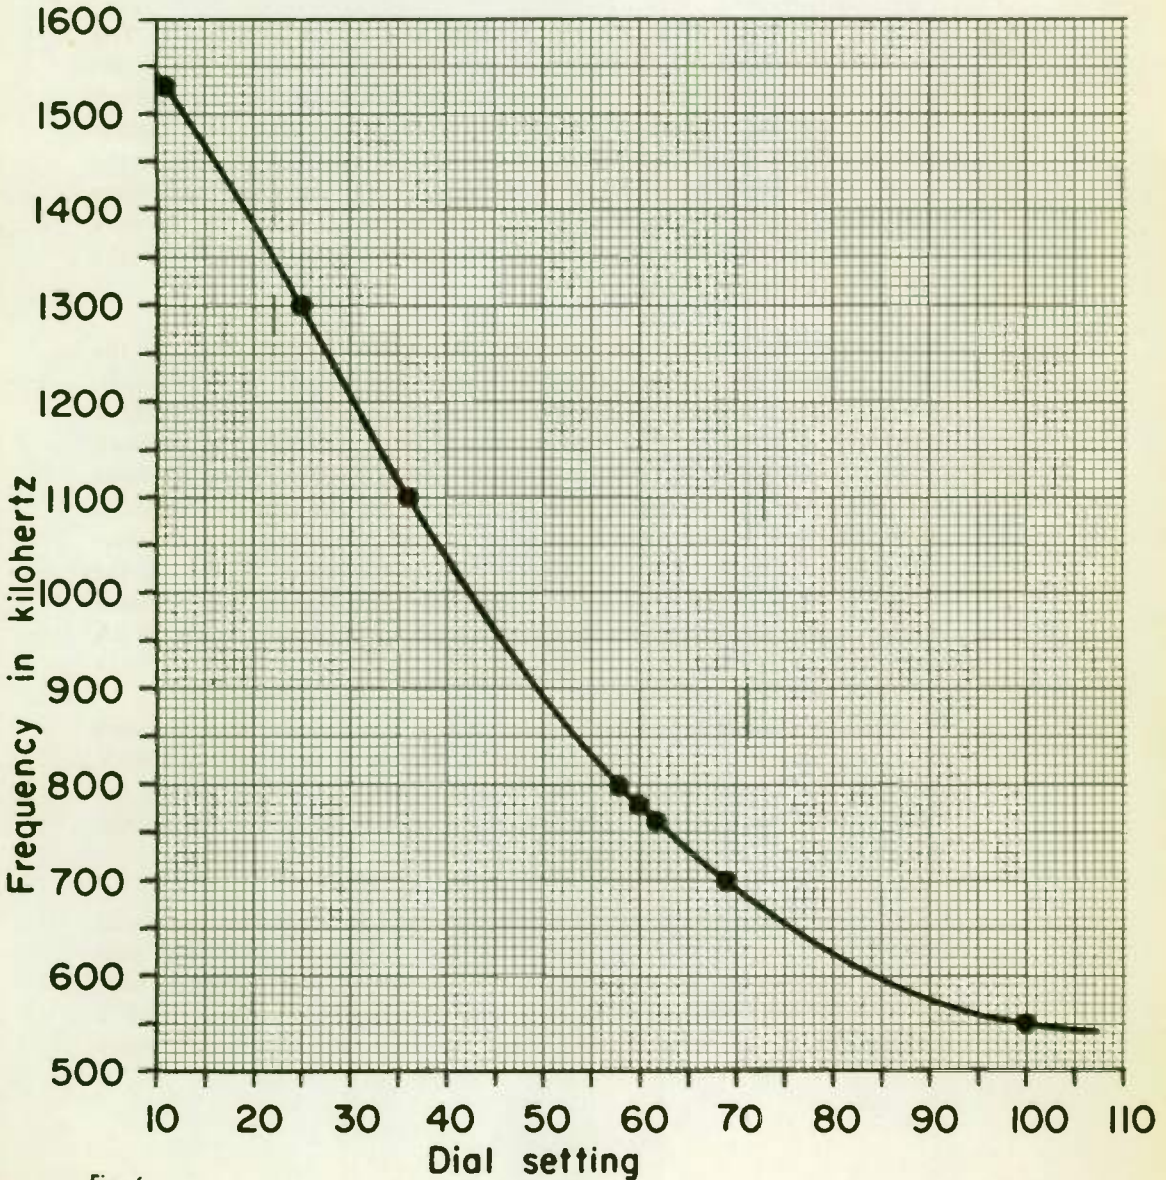

Fig. 6
5. The next day the radio engineer of Problem 4 obtained readings at dial settings of (a) 90, (b) 30, (c) 20, (d) 73, (e) 92, (f) 18, (g) 49. What frequencies correspond to these dial settings? Use Fig. 6.
4. See Fig. 6.